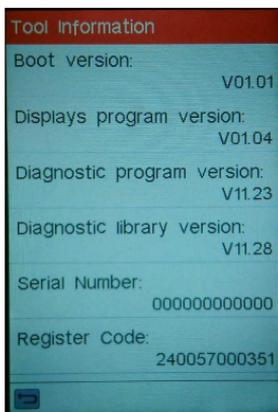

Figure 7-6
8. This is the Register Code number for inputting into step 4. (Figure 7-6)